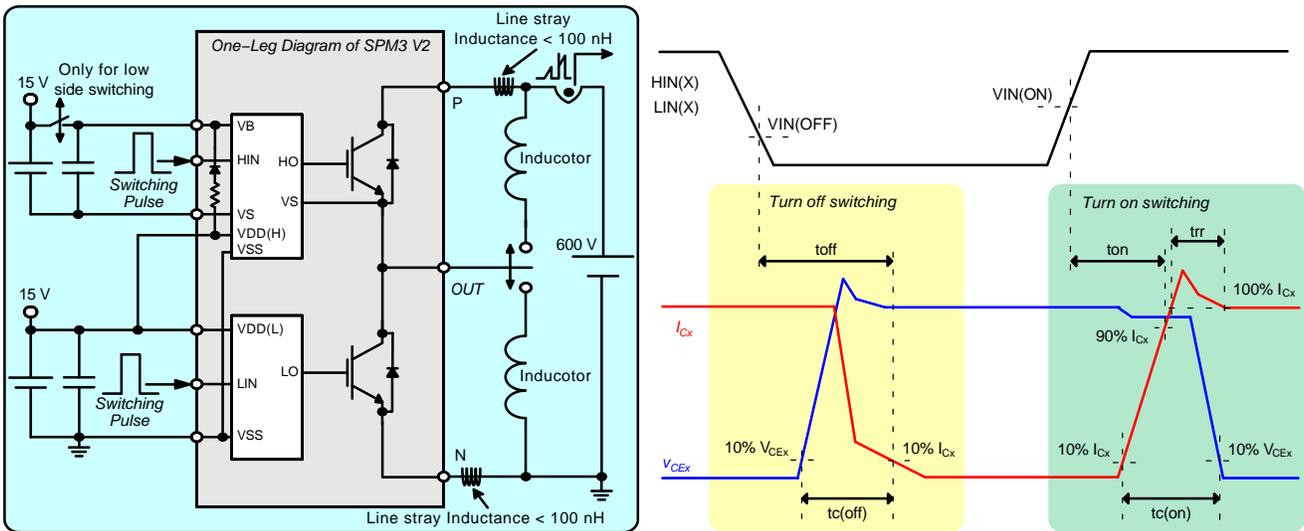

Figure 9. Switching Evaluation Circuit and Switching Time Definition
- ton and toff include the propagation delay time of the internal drive IC. tc(on) and tc(off) are the switching time of IGBT itself under the given gate driving condition internally. For the detailed information, please see and Figure 9.